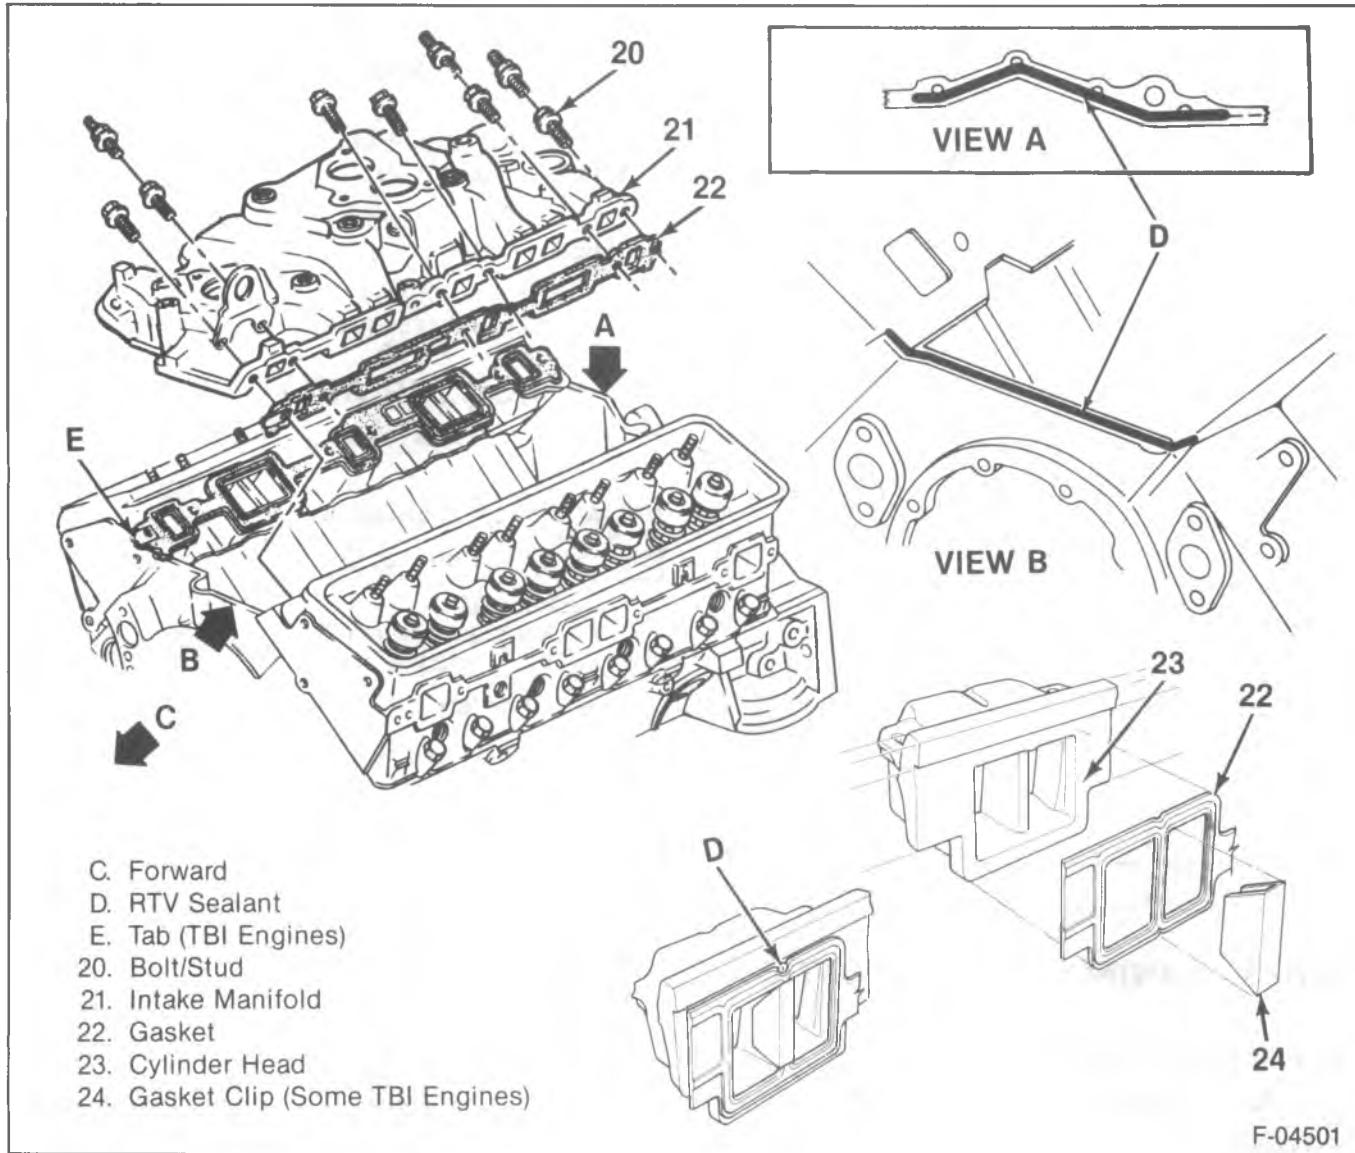

Figure 74—Intake Manifold (5.0L and 5.7L Engines)
↔ Install or Connect (Figures 74 and 75)
- Place the clip over the gaskets, as shown in figure 74.
- Refer to figure 74.